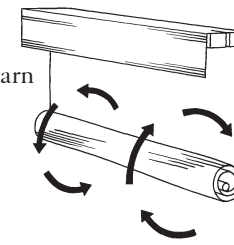

FIG. 8
- the ends (one end clockwise and the other counter-clockwise) to align yarn and slats. (Fig. 8)